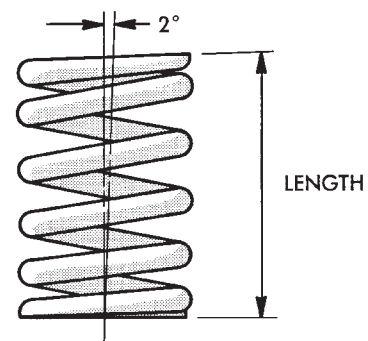

Fig. 122 Valve Spring
- (7) Measure valve stem to guide clearance. Refer to Valve Specification Chart.
- (8) Measure Valve spring free length and if the spring is square (Fig. 122). Refer to Valve Specification Chart.